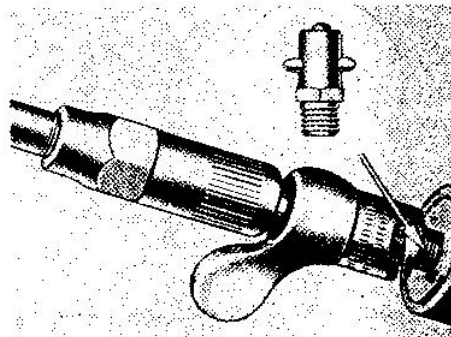

FIG. 11 - The 6594 Gun used on 5329 Adaptor.
- c. Connect Hydraulic Coupling of 6594 Gun to fitting of the 5329 Adaptor and operate gun lever until bearing is lubricated (Fig. 11).